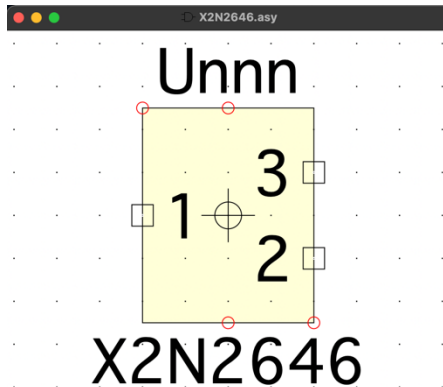

Fig. 3.5 Pins 2 and 3 were swapped
5. The pin's location can be changed by moving the pin to your desired location using the keyboard shortcut F7 (fn+F7 for MacOS). For easier wiring later, swap pins 2 and 3's location as shown on Fig. 3.5.